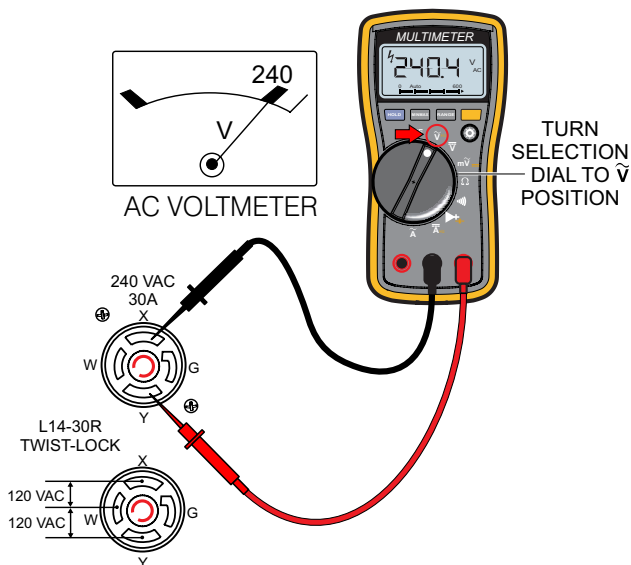

Figure 30. 120/240V L14-30R Receptacle
16. Read voltmeter on front panel of generator (Figure 30) and verify that 240 VAC is displayed. Using an external voltmeter as shown in Figure 30, verify that 240 VAC is present at the 120/240V, L14-30R twist-lock receptacle.